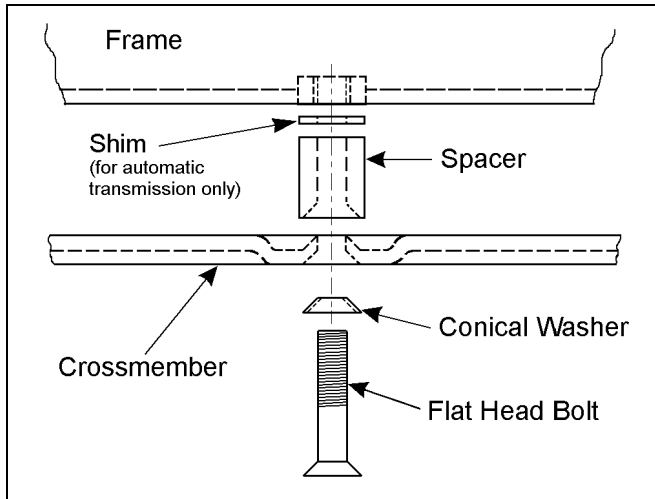

Figure 18
- 2) ☒ Remove the 3 bolts on one side and carefully lower the crossmember. Place 3 spacers from kit 860161 between the crossmember and the frame. The conical end of the spacer must fit over the mounting hole in the crossmember. For vehicles with an automatic transmission, add 3 shims. See figure 18.
crossmember, each spacer, and into the frame. See figure 18.